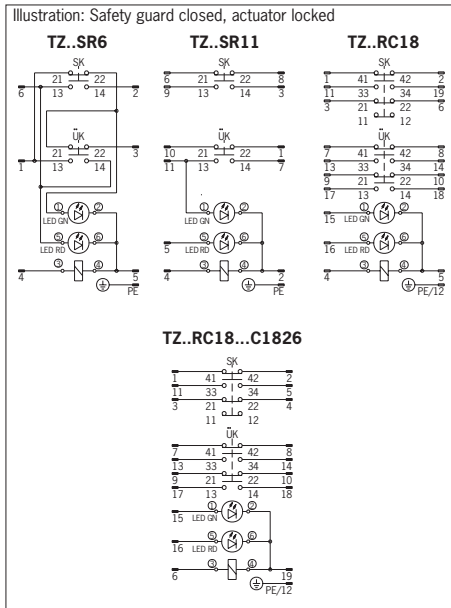

Fig. 2a: Terminal assignment
1) The LED function is described in these operating instructions based on version TZ...SR6 with standard wiring (see Figure 2a: pin 1 = ⊕ / pin 5 = ⊖ / pin 2, 3, 6 to the PLC).
- ▶ For terminal assignment see Figure 2a.
- ▶ For connector assignments see Figure 2a-2b.